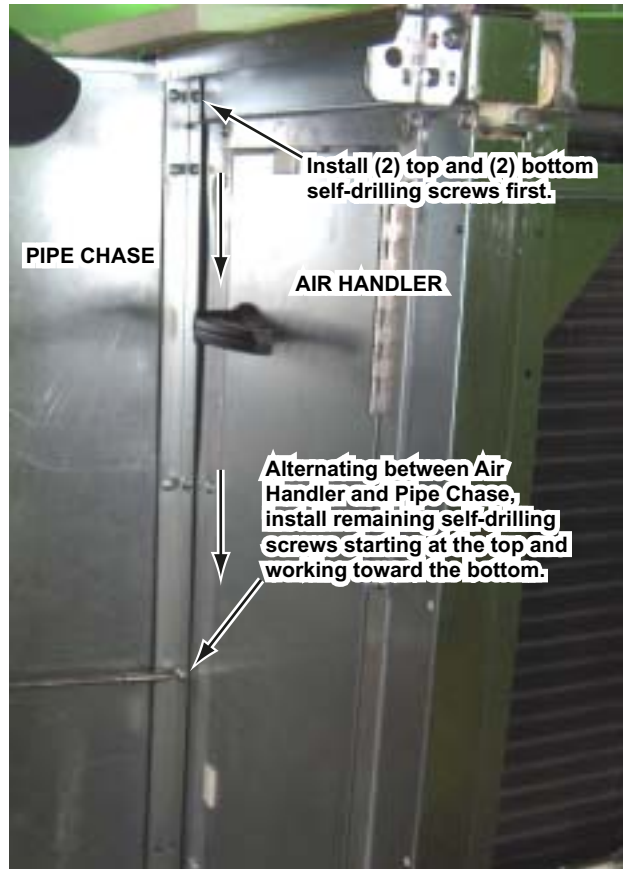

FIG. 10 – PROPER PATTERN FOR INSTALLING SELF-DRILLING SCREWS TO COVER ANGLE
- Starting at the top and alternating between the air handler and pipe chase, continue installing self drilling screws until reaching the bottom. Use caution not to strip the 20-gage housing with the (*see Fig.10*).